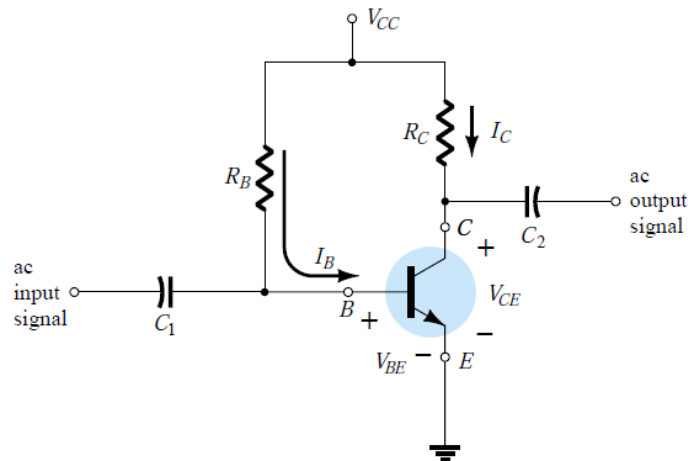

Figure 8.1 Common Collector Circuit
1. Apply a 500 mV peak-to-peak sinusoidal input signal at the given range of frequencies (see Table 8.1) to the circuit in Fig. 8.1. Use $R_B = 300 \text{ k}\Omega$, $R_C = 1 \text{ k}\Omega$, $C_1 = C_2 = 0.1 \text{ nF}$, $V_{CC} = 16 \text{ V}$, and a 2N3903 BJT.